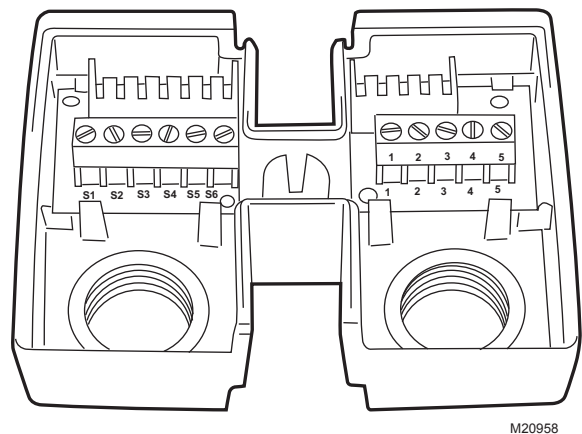
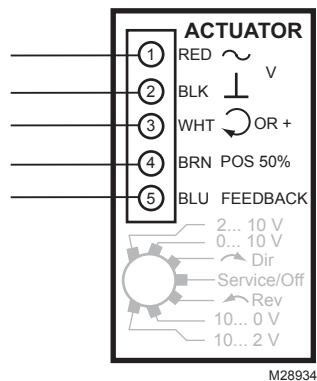

Fig. 11. Terminal block details.
Fig. 29. MS7510W2008/2206; MS7520W2007/2205 Floating Modulating.
6. Connect wires as appropriate to the terminal block(s). (See Fig. 11 and 12.)
See Fig. 11 through 28 for typical wiring details for actuators without cables (whips). See Fig. 29 through 31 for wiring actuators with cables (whips).
See Fig. 29 through 31 for wiring actuators with cables (whips).
See Fig. 11 through 28 for typical wiring details for actuators without cables (whips).